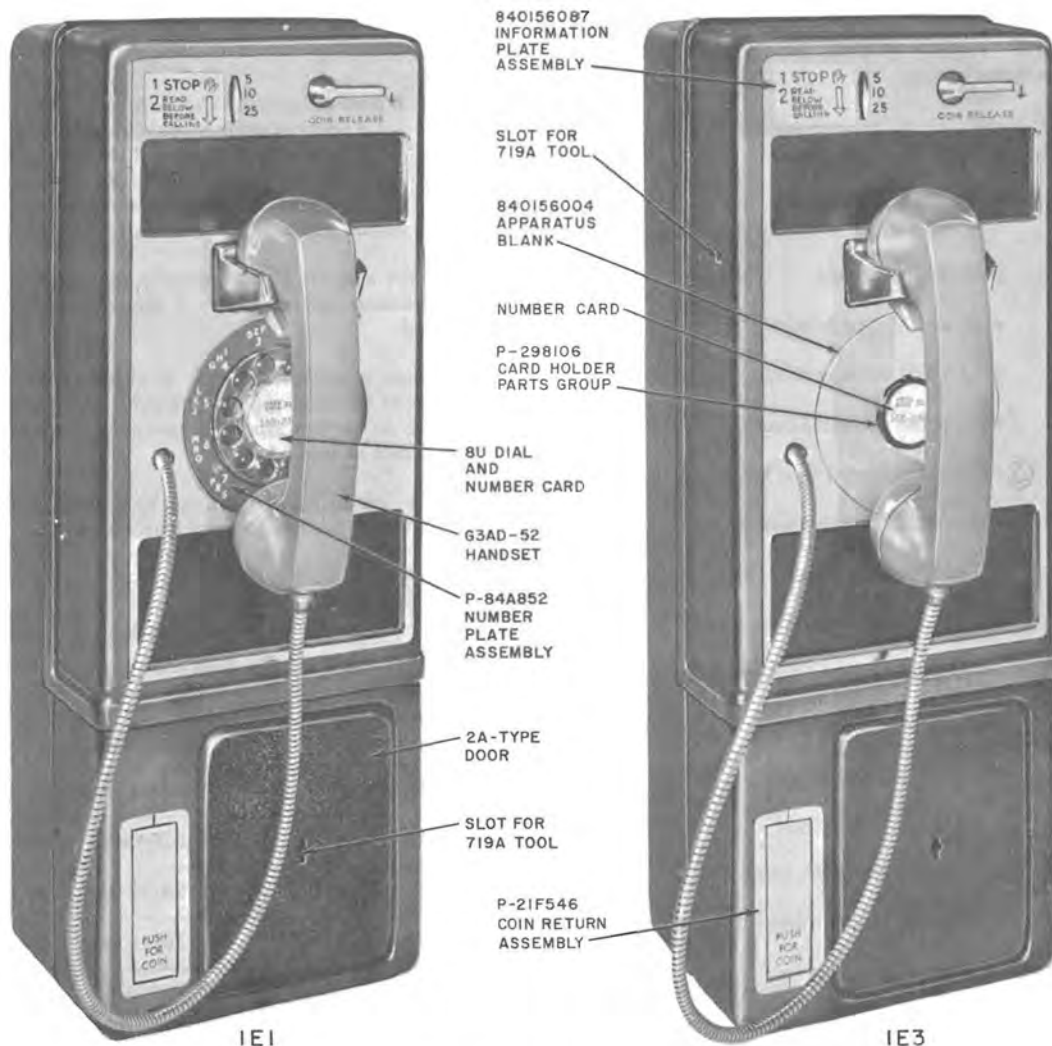

Fig. 1—1E-Type Coin Telephone Sets
- (1) Clean faceplate or panel of dirt and grime using KS-19578, List 1 cleaning fluid.
- (2) Wipe dry with a different, lint-free cloth.
(3) Apply 3M Company double sided industrial tape No. 9122 (or an approved equivalent) to the back surface of the information plate and trim neatly to size.
(4) Peel off the back protective tape covering, carefully orient the plate on the faceplate or front cover (Fig. 1) and press in place applying firm pressure to ensure complete adhesion.
2.01 The 1E-type coin telephone set (Fig. 1) can be installed in/on the following: